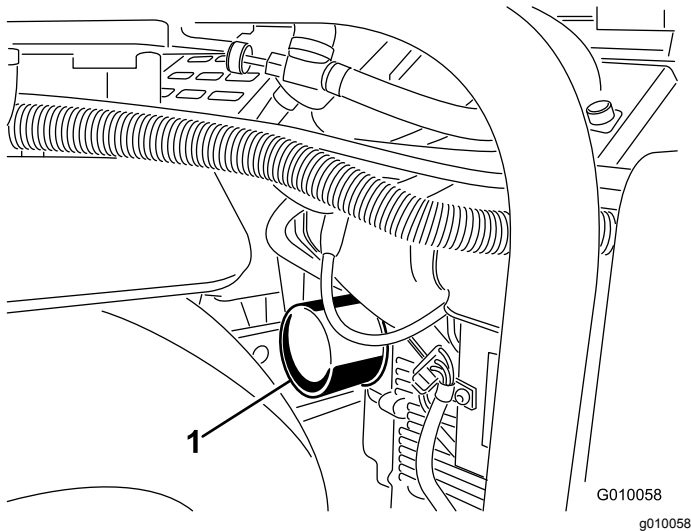
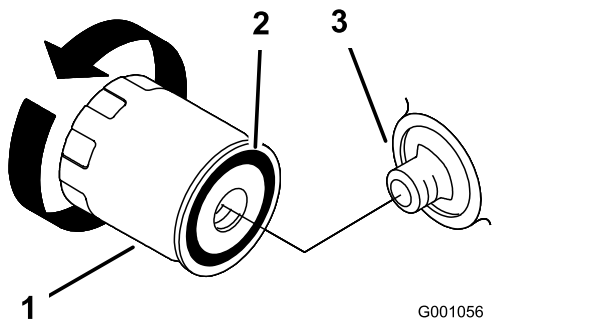

Figure 46
Figure 47
5. Place a shallow pan or rag under the filter to catch oil (Figure 46).
6. Remove the old filter (Figure 46 and Figure 47) and wipe the surface of the filter adapter gasket.